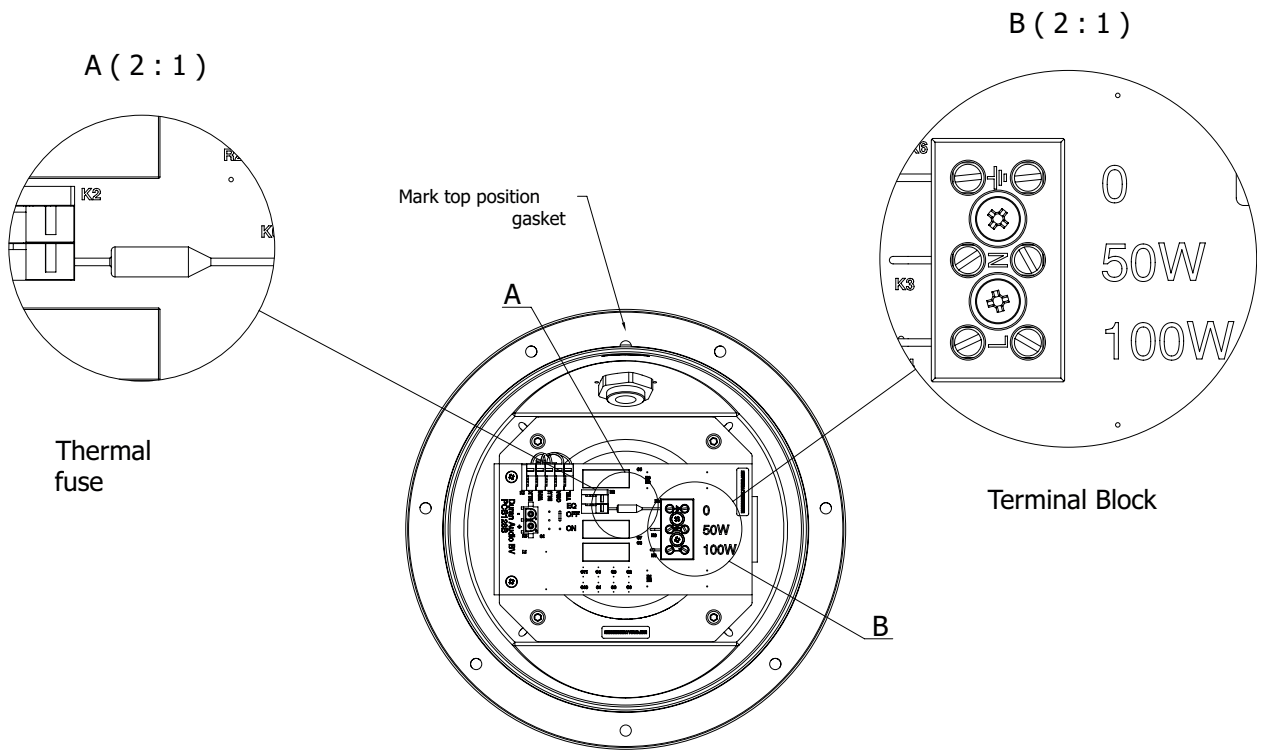

fig.6: Electrical Connections
4. Connect the wires to the terminal block, located on the printed circuit board of the electronics assembly [18] (and figure 6). Note that the terminal block contains 3 terminals labeled '100W', '50W' and '0'. Either use the '100W' and '0', or use the '50W' and '0' connections, as specified by the acoustic designer. Observe correct polarity, the '100W' and '50W' terminals correspond to positive polarity. Tighten the screws and ensure there are no stray strands from the cores.